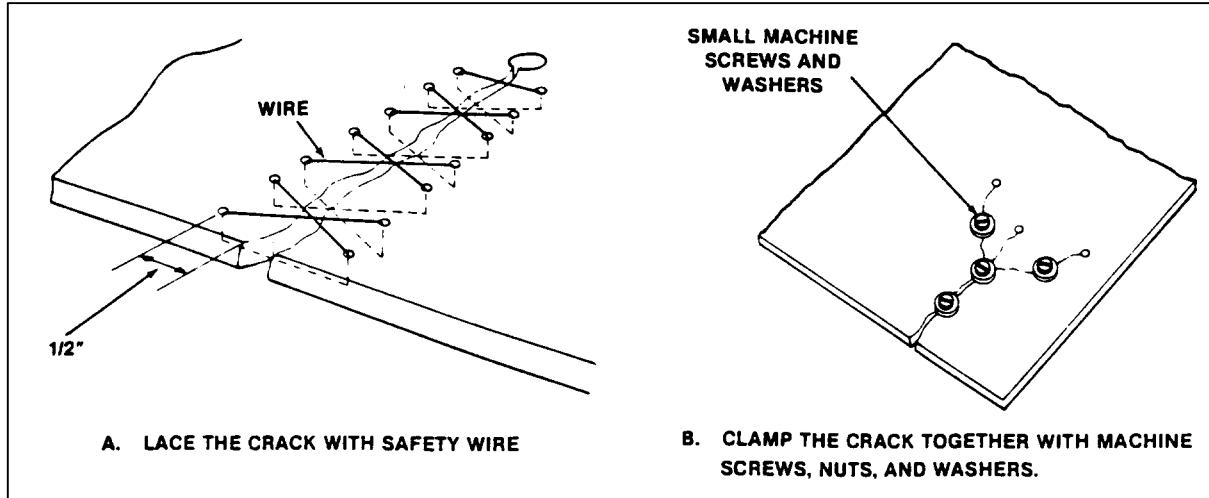

FIGURE 3-24. Temporary repairs to cracked windshields or windows.
a. Minor Repairs. There are times, however, when a windshield may be cracked and safety is not impaired. In that case, repairs can be made by stop-drilling the ends of the crack with a # 30 drill (1/8 inch) to prevent the concentration of stresses causing the crack to continue. Drill a series of number 40 holes a half-inch from the edge of the crack about a half-inch apart, and lace through these holes with brass safety wire (see figure 3-24) and seal with clear silicone to waterproof.
b. Temporary Repairs. One way to make a temporary repair is to stop-drill the ends of the crack, and then drill number 27 holes every inch or so in the crack. Use AN515-6 screws and AN365-632 nuts with AN960-6 washers on both sides of the plastic. This will hold the crack together and prevent further breakage until the windshield can be properly repaired or replaced. (See figure 3-24.)